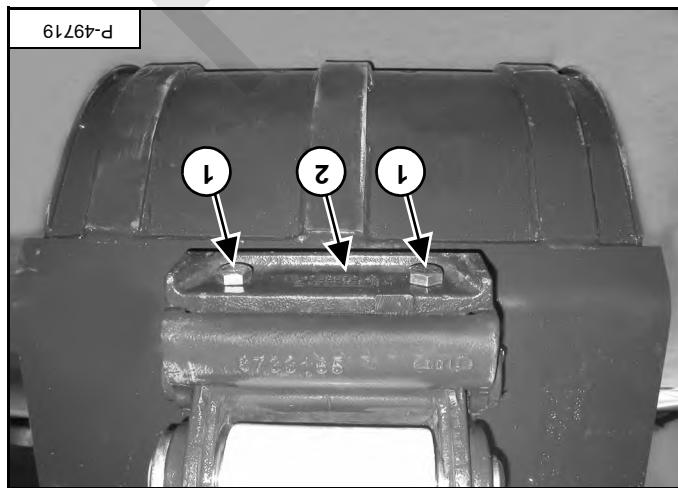

Figure 127
Remove the two bolts (item 1) and plate (item 2) [Figure 127].